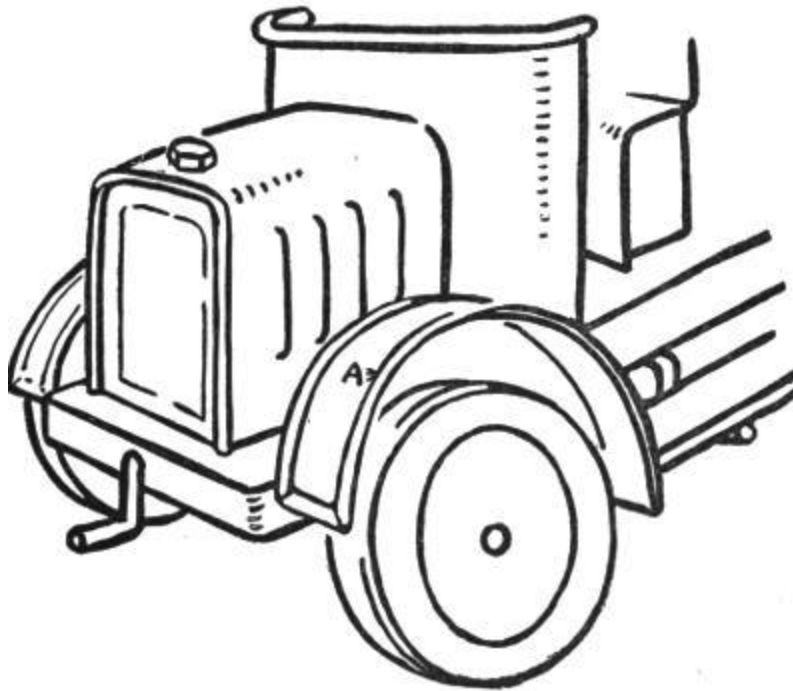

FIG. 83.
**Mud Guards and Running Boards.**—Mud guards may be made from a part of the side and bottom of a can as shown in Fig. 83. A 3-inch can is the best size to use for the truck. The can is cut down to a height of  $1\frac{1}{8}$  inches and then cut into two parts across the bottom so that two mud guards may be made from each can. The outer edges are turned as in making a tray and folded pieces are slipped over the ends as shown in Fig. 83. These mud guards are soldered to the frame in the position shown.